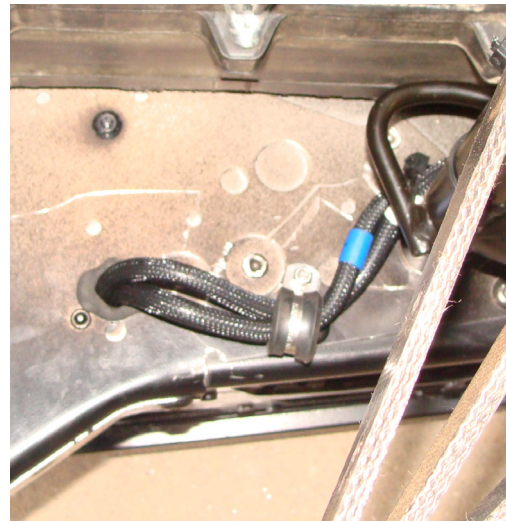

Figure 31
2. Install the grommet (026-01-176 rubber push-in grommet) into the tunnel hole, if not already installed. Then route both wiring harnesses through the grommet (Figure 31).